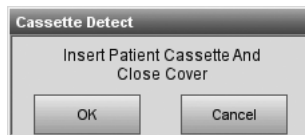

Fig. 8-43 Insert Cassette
- Insert a patient cassette (Fig. 8-43).